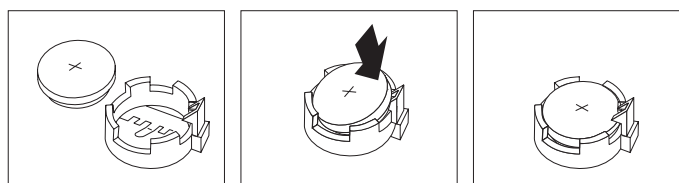

Figure 15. Battery installation
6. Install the new battery. See Figure 15.